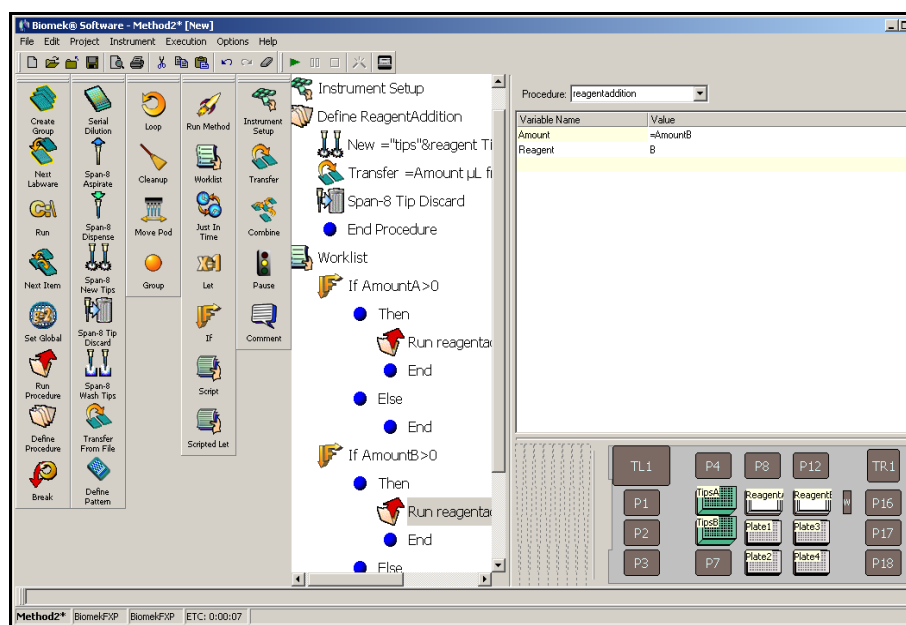

Figure 8-10. Variable name and value changed
10. Change the Value for Reagent to **B**. You won't use an Else substep here either, so the main editor should look like Figure 8-10.